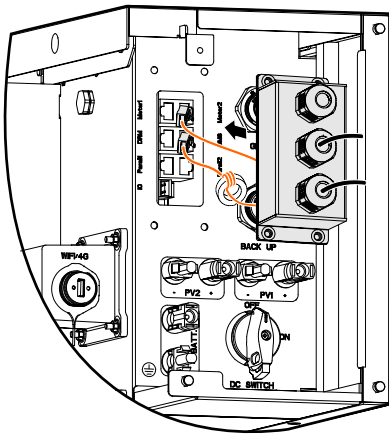

Figure3-41 Insert the communication port
- Step 1 Unscrewing the lock nut, insert the RJ45 port to the communication port after through the magnetic ring and COM wiring cover (as shown in Figure3-41),